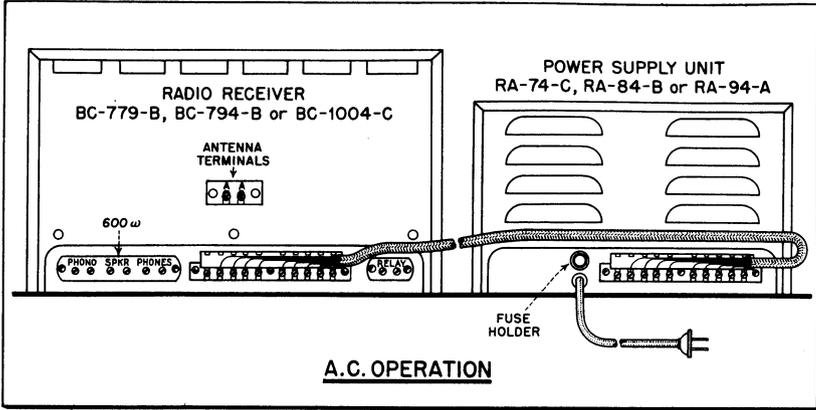

Figure 5. Cable Connections for a-c Operation
(1) Remove the sheet metal covers from terminal strip (E4) on the rear of the receiver and terminal strip (E1) on the power supply unit. See that all ten screws on each strip are unscrewed at least three turns. Then attach one end of the connector cable to each terminal strip *exactly* as shown in FIG. 5 and tighten all the screws securely. Make certain that each slotted spade lug on the cable strips makes contact with its respective screw terminal *only*, since a lug jammed between *two* of the screws could cause plenty of trouble. Then replace both metal covers immediately, and don't ever remove them while the power supply unit is connected to the a-c power line.
(2) The spacing of the spade lugs on the cable terminal strips is exactly the same as the spacing of the screws in the terminal strips on the receiver and power unit. If the two don't go together easily, **DO NOT USE FORCE**. Instead of cussing around and tearing things apart, sit back and take a nice calm look to see if you've been going at it the right way. Be sure *all* the screws are unscrewed far enough. If one of the spade lugs has been bent or pushed out of place by rough handling, straighten it up and try again. The spade lugs should slip under the screws from the top (FIG. 5).